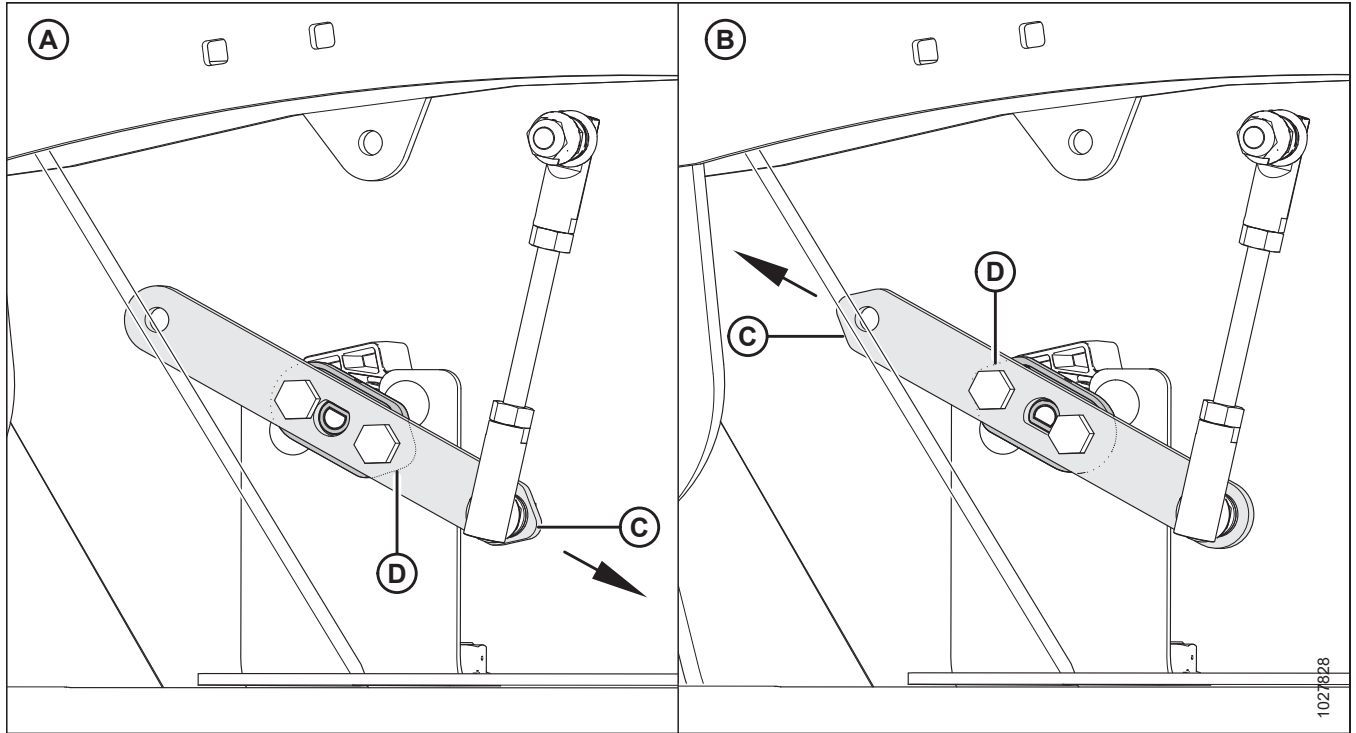

Figure 3.22: Sensor Arm/Pointer Configurations
- For configuration (A), pointer (D) points to the **FRONT** of the header.
- For configuration (B), pointer (D) points to the **REAR** of the header.
2. Check that sensor arm (C) and pointer (D) are configured properly for your combine. For instructions, refer to Figure 3.22, page 25.